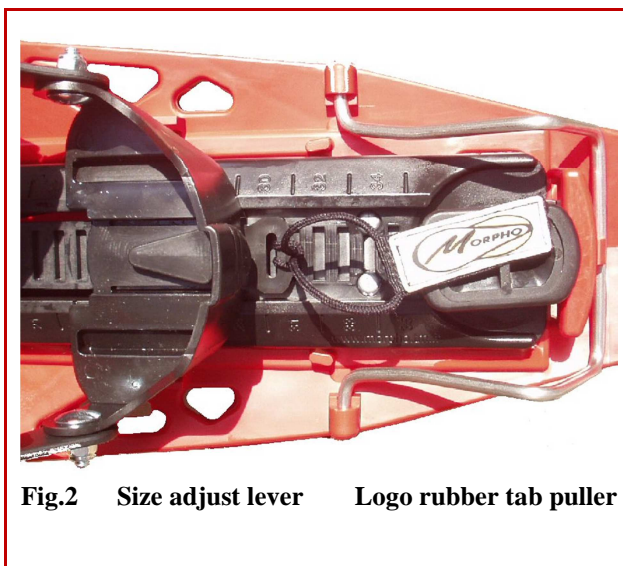
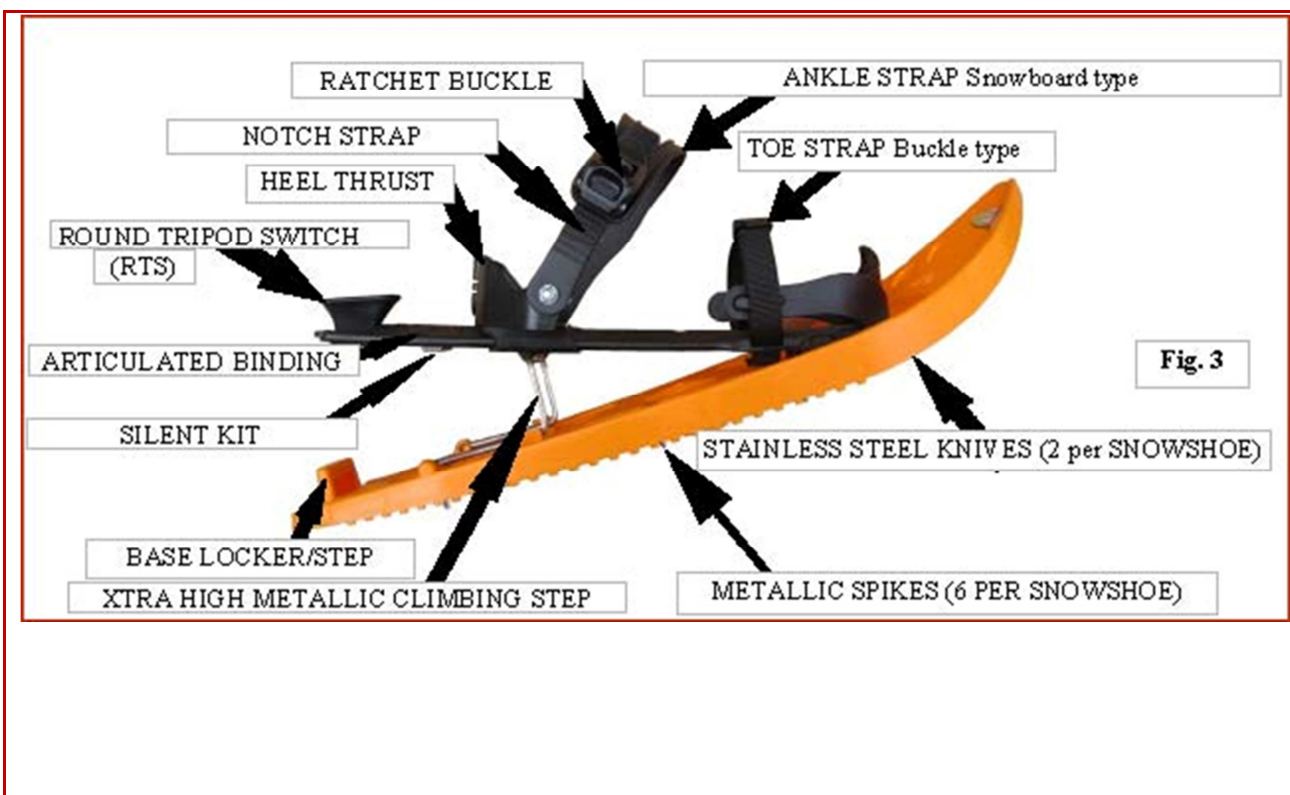

Fig.2 Size adjust lever Logo rubber tab puller
Fig. 3
1. Untighten **ankle strap** (by loosening completely the **notch strap** from the **buckle** of the strap) as well as the 2 **toe straps** so as to insert your boots and to adjust the **heel thrust** of **articulated binding** plate to your boot size. See Fig.3
3. Adjust the heel thrust to the proper size of your boot using the Morpholock system. See Fig.2:
6. **Snowshoeing:** keep **articulated binding plate free** from snowshoe base when going flat, traverse, uphill or downhill: the **RTS** unlocked from base locker/step in all cases. The articulated binding must **lay flat** on the snowshoe base or **stepping** on the extra high **metallic climbing step** when climbing steep slopes: for this purpose rotate the **climbing step** forward in its upwards position (fig.3) from its idle position (fig.2) with your gloves.
7. **After use, untighten ankle strap** first: push on the **release lever** of the ratchet buckle and pull out the ankle strap from the notch strap while keeping pressure on the **buckle push release lever**. Then untighten the 2 toe straps: pull up the ends of the quick buckles and loosen the webbings. See fig 3. Remove your boot. **To store** the snowshoe push the articulated binding on the base and lock it to the base by **rotating the RTS** so as to **insert it into the base locker/step**. See fig.2
.When rotating backward metallic climbing step to its idle position make sure to fully push it down until it is blocked by the 2 snowshoe base **rear hooks**. (fig.2)